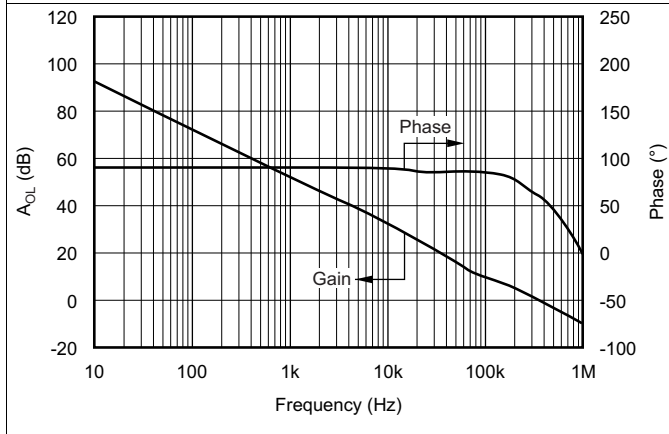

Figure 3. Open-Loop Gain vs Frequency
• Added text to Figure 3, Open-Loop Gain vs Frequency , for clarity.....	6